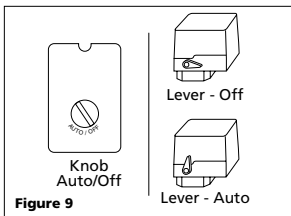

Figure 9
- Turn pressure switch lever or knob to **AUTO** position and run unit for 30 minutes to break in the pump parts (See Figure 9).